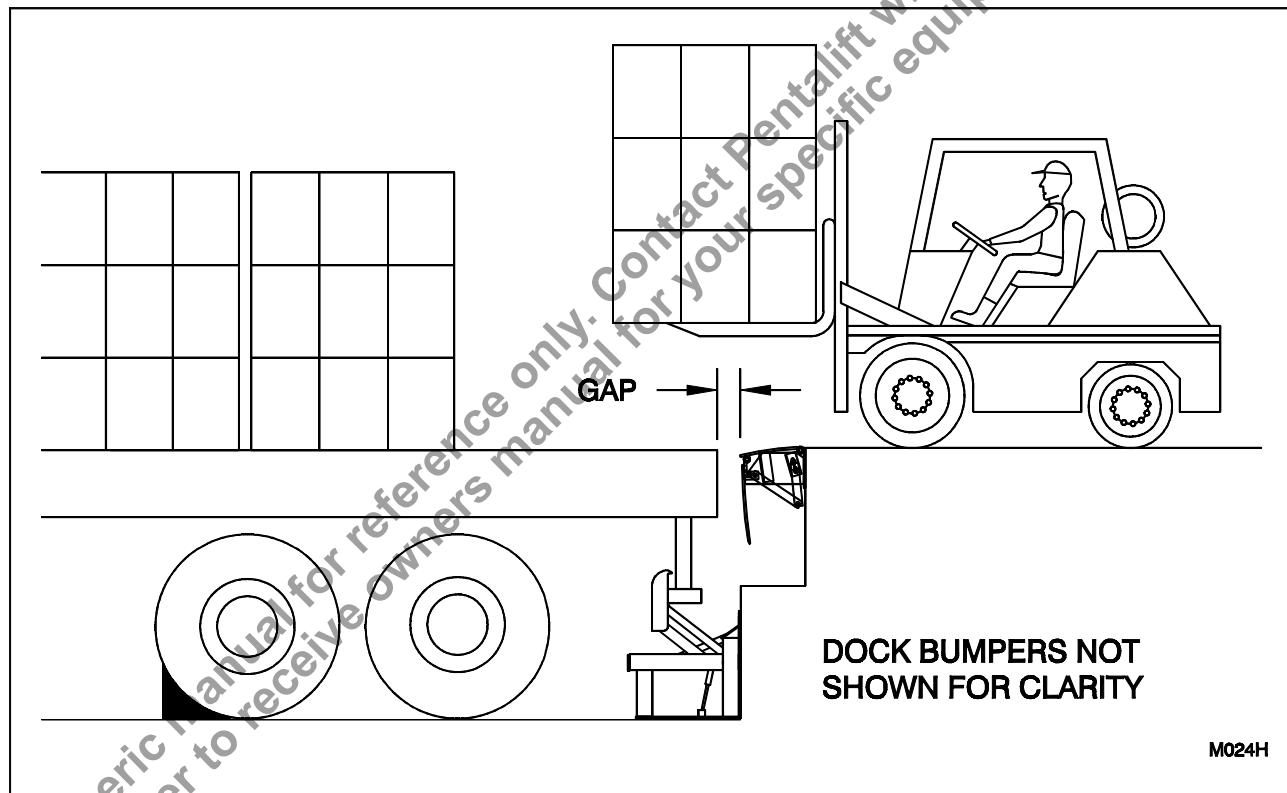

Figure 13: End Loading/ Unloading
1. Load or unload end loads (See **END LOADING/ UNLOADING** on page 17) with the deck and lip in the stored position (See Figure 13: End Loading/ Unloading on page 17)